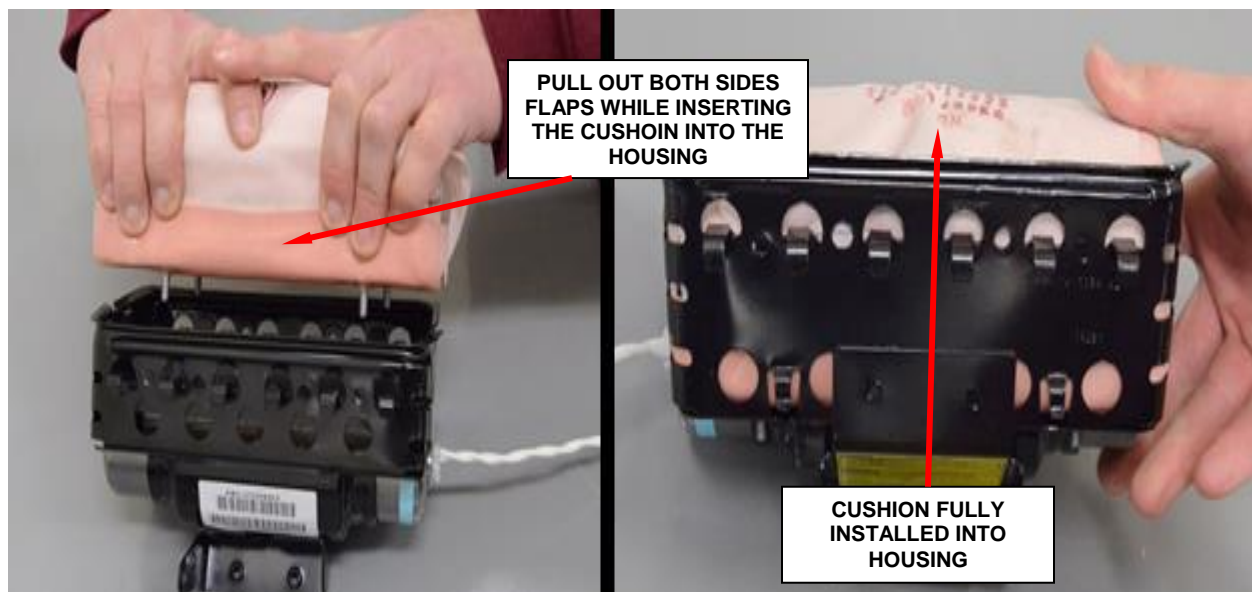

Figure 113 - Side Flaps Must Be Held Out
1. Insert the cushion, pulling out both side flaps (Figure 113).